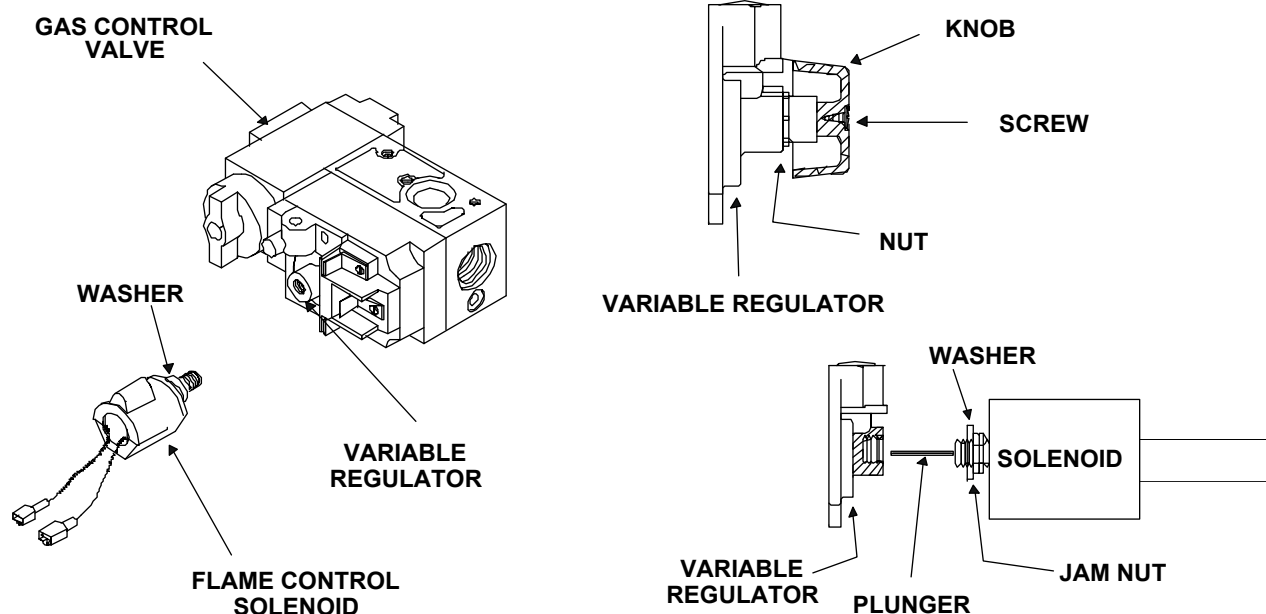

Figure 4.
4. Place washer on flame control solenoid (see Figure 4).
5. Insert the correct plunger (blue - natural gas, red - propane) into the flame control solenoid (see Figure 4).
6. Tighten the jam nut (see Figure 4) to the face of the variable regulator body.